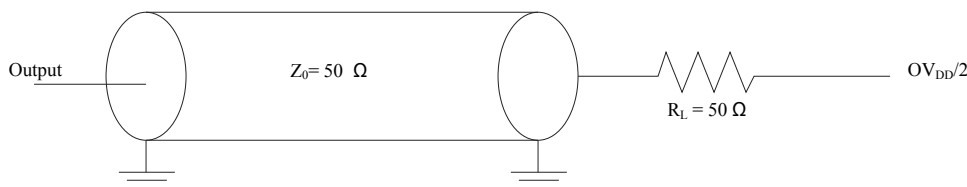
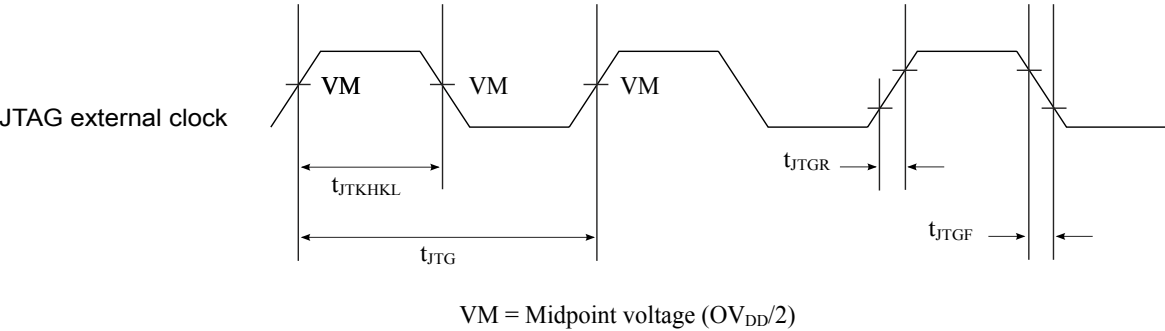
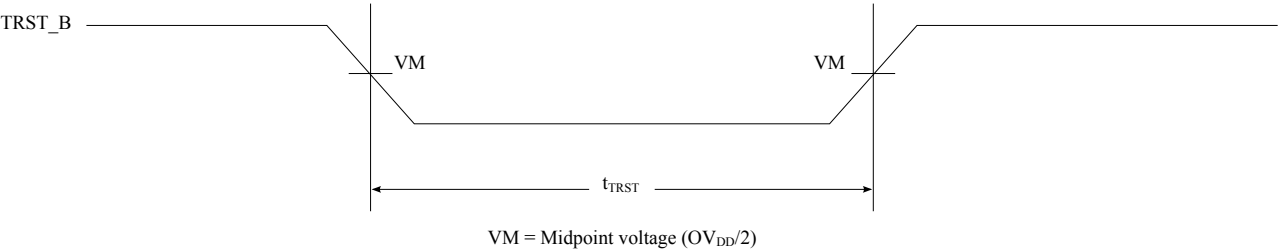
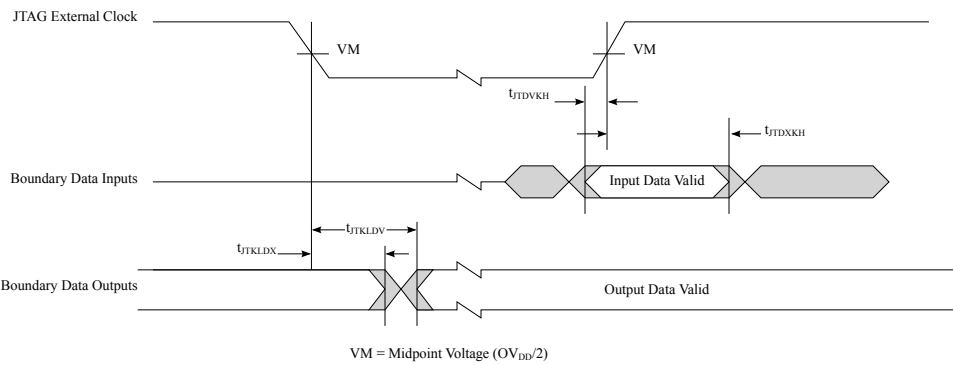

Figure 32. AC test load for the JTAG interface
Figure 33. JTAG clock input timing diagram
Figure 34. TRST_B timing diagram
Figure 35. Boundary-scan timing diagram
This table provides the JTAG AC timing specifications as defined in Figure 32, Figure 33, Figure 34, and Figure 35.
3. The symbols used for timing specifications follow these patterns: t(first two letters of functional block)(signal)(state)(reference) (state) for inputs and t(first two letters of functional block)(reference)(state)(signal)(state) for outputs. For example, t_{JTDVKH} symbolizes JTAG device timing (JT) with respect to the time data input signals (D) reaching the valid state (V) relative to the t_{JTG} clock reference (K) going to the high (H) state or setup time. Also, t_{JTDXKH} symbolizes JTAG timing (JT) with respect to the time data input signals (D) reaching the invalid state (X) relative to the t_{JTG} clock reference (K) going to the high (H) state. Note that, in general, the clock reference symbol representation is based on three letters representing the clock of a particular function. For rise and fall times, the latter convention is used with the appropriate letter: R (rise) or F (fall).
4. See Figure 32.
5. See Figure 33.
6. See Figure 34.
7. See Figure 35.